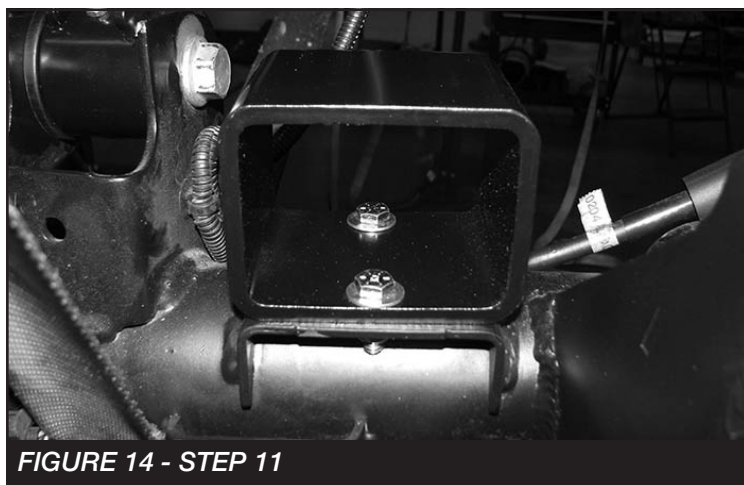

FIGURE 14 - STEP 11
12. Locate and install FT50724 (Rear Bump stop Spacer) using the supplied 5/16" hardware. Torque to 29 ft-lbs. **SEE FIGURE 14**